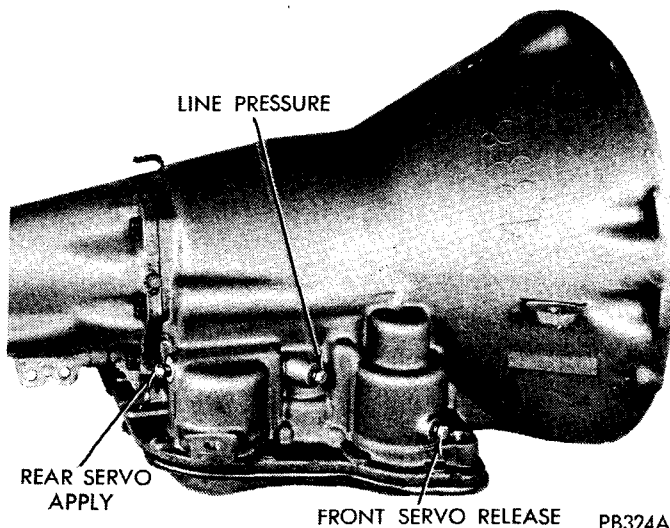

Fig. 14—Pressure Test Locations (Right Side of Case)
(1) Install an engine tachometer, raise vehicle on a hoist and position tachometer so it can be read under the vehicle.
(2) Connect two 0-100 psi pressure gauges, Tool C-3292 to pressure take-off-points at side of accumulator and at front servo release (Fig. 14).
(3) With control in D (drive) position, speed up engine slightly until transmission shifts into direct. (Front servo release will be pressurized in direct.) Reduce engine speed slowly to 1,000 rpm. Line pressure at this time (1,000 rpm) must be 54-60 psi, and front servo release pressure must not be more than 3 psi below the line pressure.
(4) Disconnect throttle linkage from transmission throttle lever and move throttle lever gradually to the full throttle position. Line pressure must rise to a maximum of 90-96 psi just before or at kickdown into low gear. Front servo release pressure must follow line pressure up to kickdown point and should not be